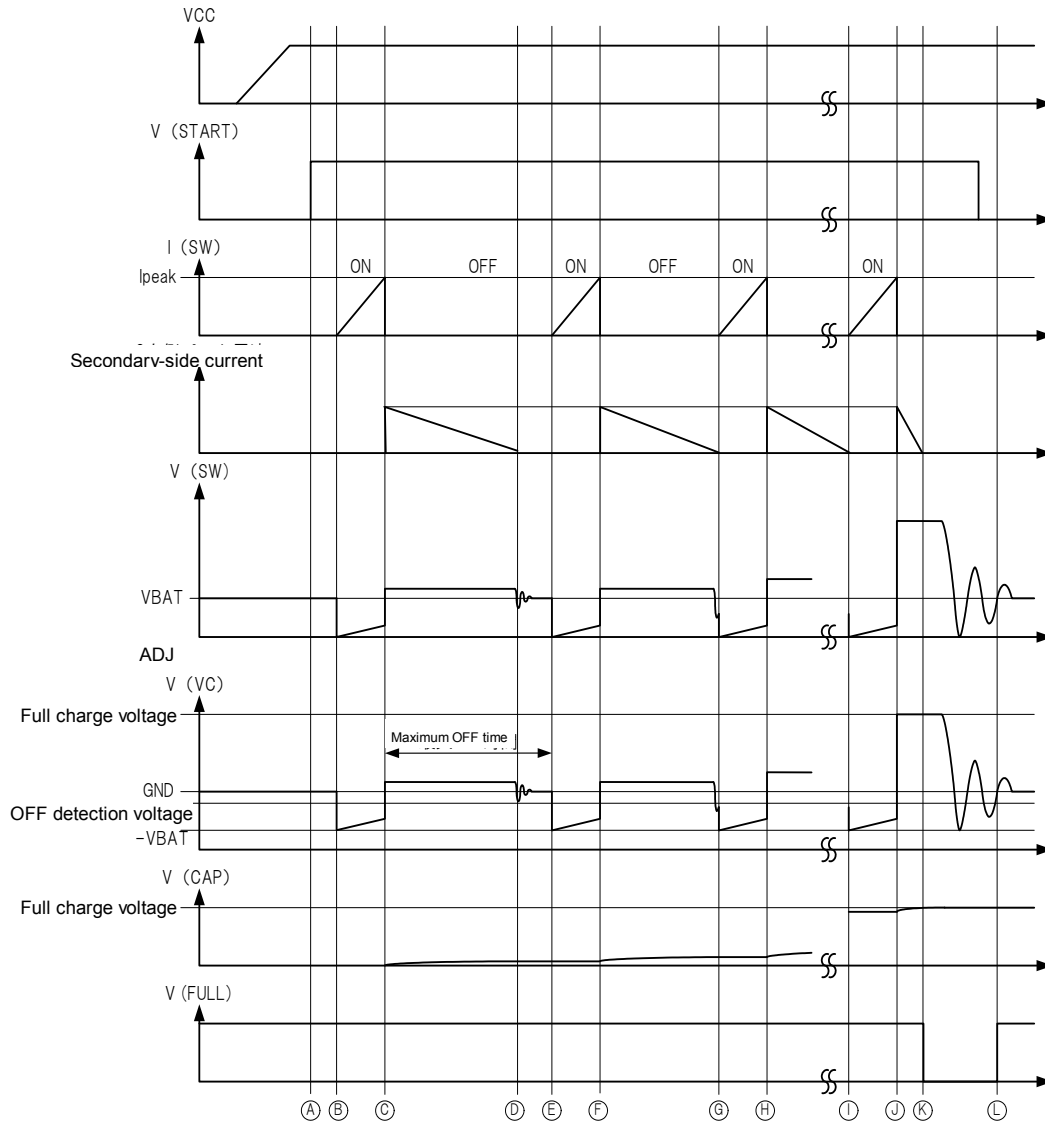

Fig 32. Timing Chart 2: Switching Operation
The switching operation of this IC is shown in Fig.32 Timing Chart 2.
If the START pin is set to "H", all internal circuits are reset, the internal PowerTr is turned ON. (See Fig 32. Time ①→②.) While the internal PowerTr is turned ON, a current is passed into the SW pin. When the current specified at the RADJ pin voltage is reached, the PowerTr is turned OFF. (See Time ③ in Fig 32.) The time t_{ON} when the PowerTr is ON is indicated as follows:
When the energy release to the transformer secondary-side is completed, the VC pin voltage and the SW pin voltage produce resonance by the parasitic capacitance and the transformer inductance. (See Time ⑩ in Fig 32.) At this time, unless the VC pin voltage becomes the GND voltage or less shown, the PowerTr remains OFF till the maximum OFF time is reached. (See Time ⑪ in Fig 32.) As soon as the OFF detection voltage or less is reached, the PowerTr is turned ON. (See Time ⑫ in Fig 32.) The time, t_{OFF} when the secondary-side releases energy is represented by the following equation:
When it is detected that the internal PowerTr is left OFF for over the maximum OFF time specified in the electrical characteristics, the PowerTr is forced to be turned ON. This occurs unless the VC pin voltage becomes the OFF detection voltage specified in the electrical characteristics or less. (See Time ㉛ in Fig 32.)
VC pin node is divided by between transformer Secondary node and Fast recovery diode anode side by resistor R_{FB1} , R_{FB2} and R_{FB3} . When VC pin voltage reach until full charge voltage as Fig.32 timing chart ①~④, charge is stopped.